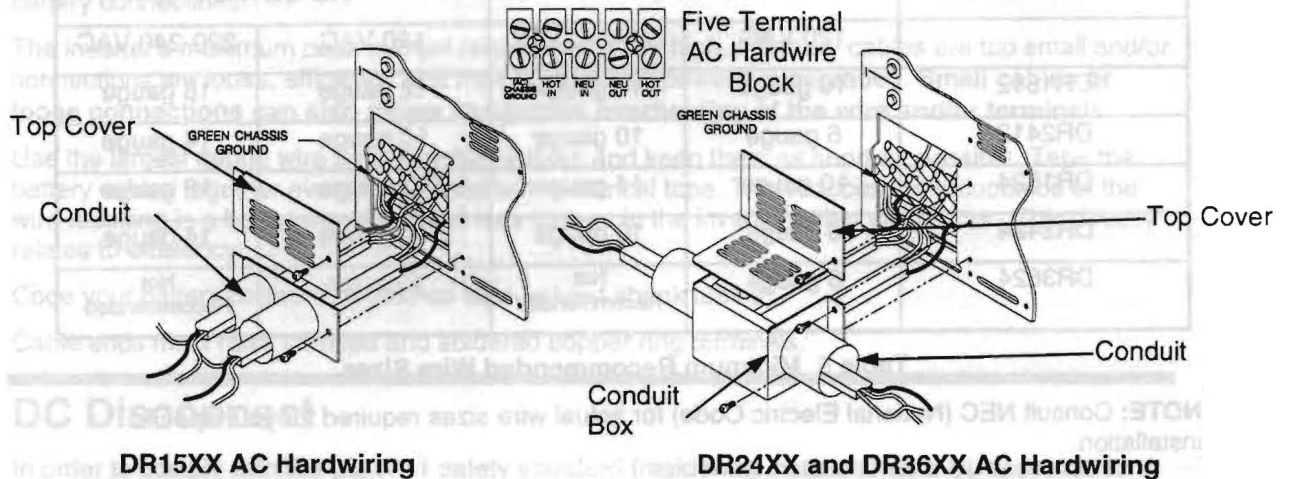

Figure 5, DR Series AC Hardwiring
Step 2 - Feed the wires through appropriate conduit and through the bottom part of the AC cover. In certain installations, conduit fittings may be replaced with strain reliefs, consult local and national codes. (**Note:** The U.S. requires use of conduit in this installation, consult the NEC. See **Figure 5**.)
Step 3 - Following the wiring guide located in the AC wiring compartment **Figure 5**, connect the safety(green), hot(black), and neutral (white) wires from the AC input (utility, generator, etc) to the terminal block and torque 10-15 **inch-pounds**. **Caution!!** Be sure the AC source is disconnected before attempting to hardwire it to the inverter.